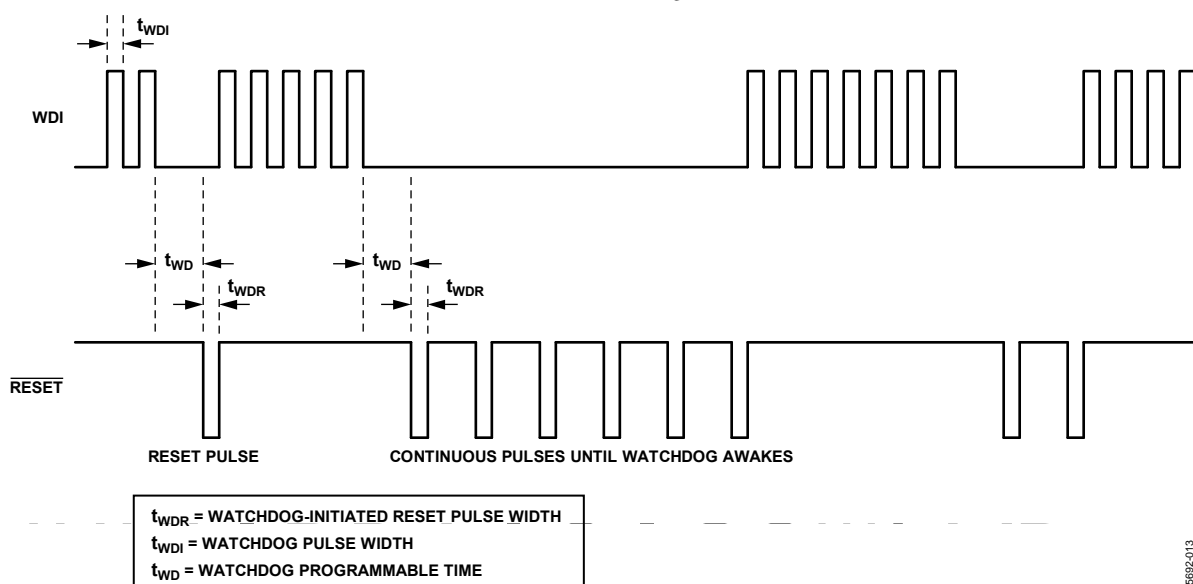

Figure 13. Standard Watchdog—Pulsing Reset Until Watchdog Awakes
In the default standard watchdog mode, if WDI remains either high or low for longer than the timeout period, t_{WD} , a RESET pulse is generated in an attempt to allow the system processor to re-establish the WDI signal. The RESET pulses continue indefinitely until a valid watchdog signal, a rising or falling edge signal at the WDI, is received. The internal watchdog timer clears whenever a reset is asserted. The standard WDI and RESET timing diagrams are shown in Figure 13.
- When the external monitoring processor cannot issue the necessary WDI signal (see Figure 13 and Figure 14)